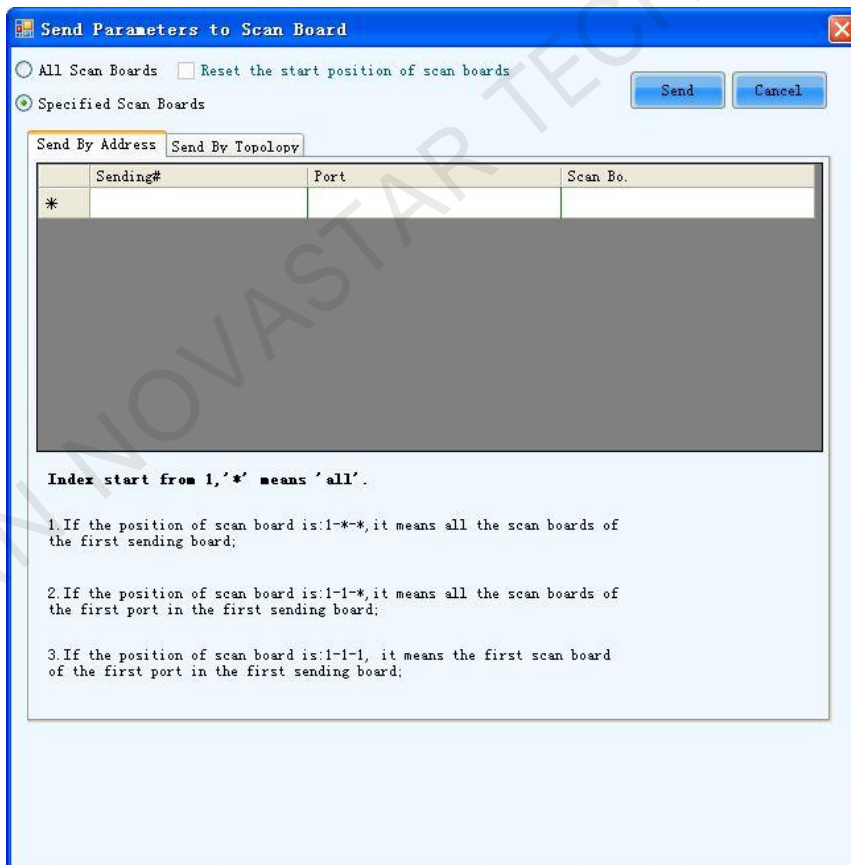
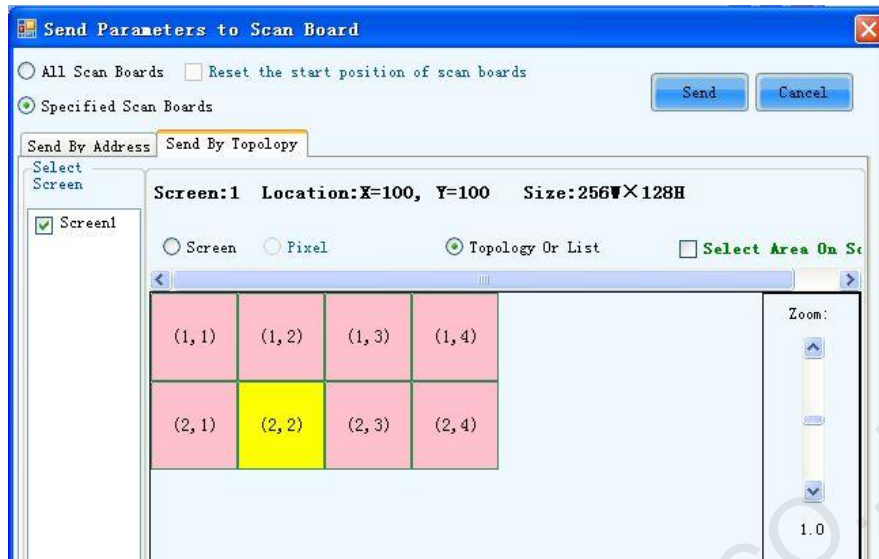

Fig. 5-34 The Send by Address page
Fig. 5-35 The Send by Topology page
Corresponding pages are shown in Fig.5-34 and Fig.5-35.
Shown in Fig.5-34 is the Send by Address page. The Sending#, Port and Scan Bo are used to specify the receiver cards to which the settings will be sent. Set these three parameters according
Shown in Fig.5-35 is the Send by Topology page. The sketch of the receiver cards layout is shown in this page. Select the receiver cards from the sketch. To select multiple scan boards, press the left button and drag the mouse.
2. Ethernet ports of the same sending board can also be set as hot backup of each other. As in Fig.5-34, the Ethernet port 2 is the hot backup of the Ethernet port 1.